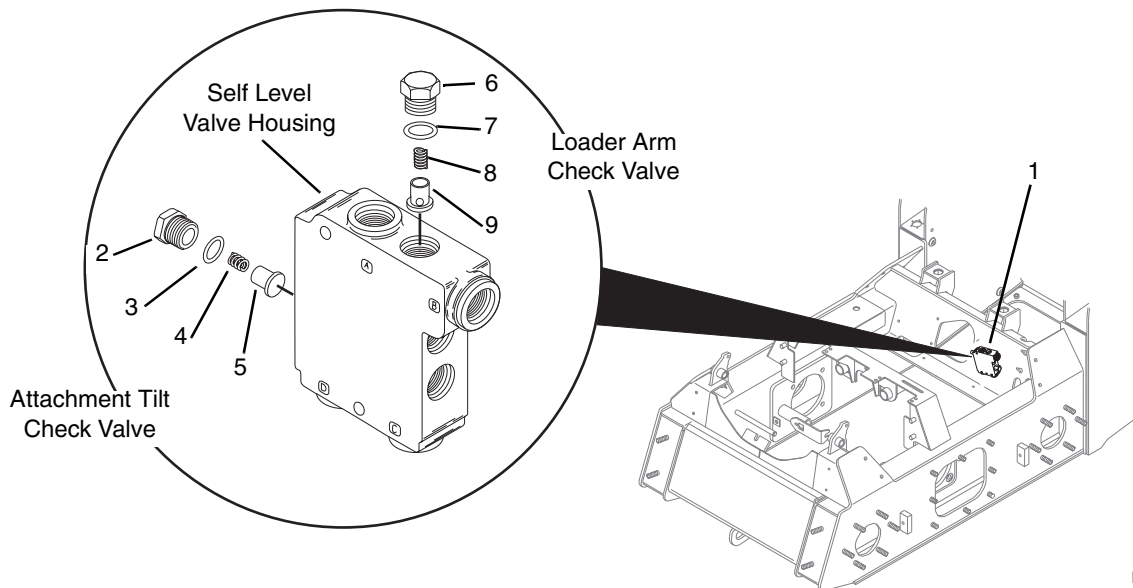

Figure 4-29 Self Level Check Valve Maintenance
4. Locate the self level valve (Fig. 4-29, 1) on the inside of the frame.
6. Remove plug assembly (Fig. 4-29, 2 or 6) with o-ring (3 or 7) from the valve housing. Remove and discard the o-ring from both plugs.
7. Remove spring (Fig. 4-29, 4 or 8) and plunger (5 or 9) from the valve housing cavity.
4. Locate the self level valve on the inside of the frame (Refer to Fig. 4-29).